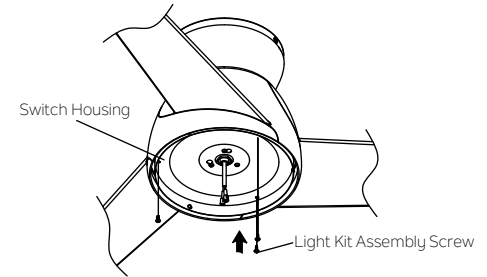

Fig. 17
Step 1. Install and tighten three (3) light kit assembly screws to switch housing.(Fig.17)